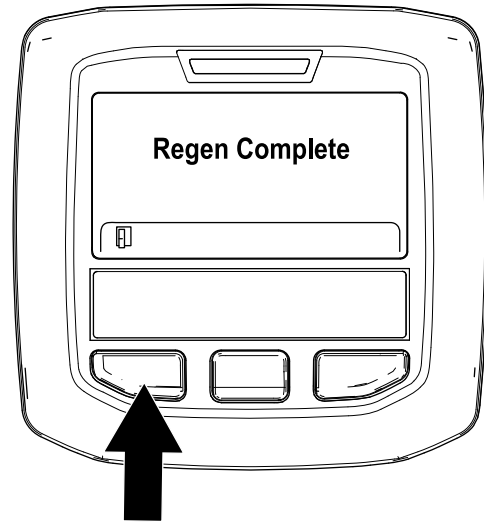

Figure 57
- The parked regeneration is complete when the “Regen Complete” message displays in the InfoCenter. Press the left button to exit to the home screen (Figure 57).